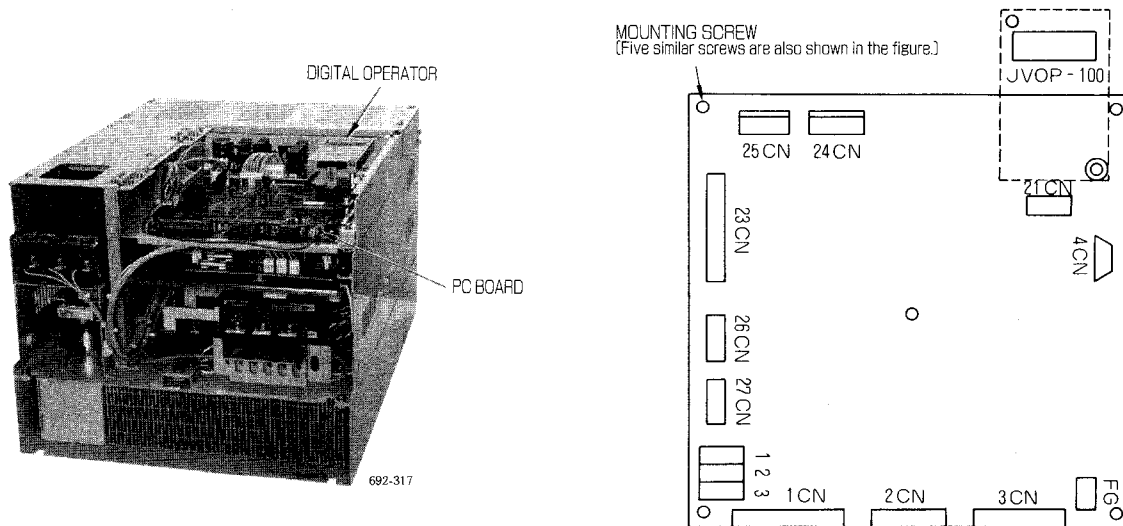

Fig. 15.4 Removing the Controller
#### (1) How to remove the PC board (Fig. 15.4)